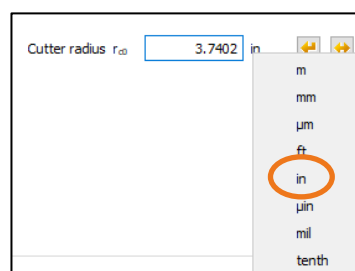

Figure 20. Switching the unit to «inch»
7. Under «**Process**», select «**Face milling (single index method)**» as the manufacturing process and then input the «Cutter radius». We recommend you use the sizing function  to the right of the «Cutter radius» input field to get a suggested value for the minimum cutter tip size (in accordance with Klingelnberg «Bevel gears», page 70) and then enter the cutter tip radius that was actually used, from Production. Click the right-hand mouse button to select the unit «inch»: this is usually used for Gleason cutters (see Figure 20).